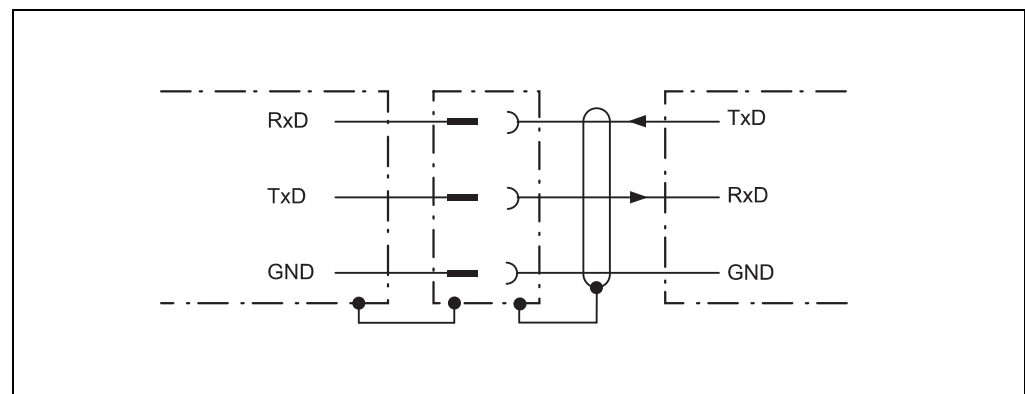

Fig. 29: Wiring the RS232 interface
- Connect the PC (serial interface) to the NAV350 (see fig. 29 on page 48)